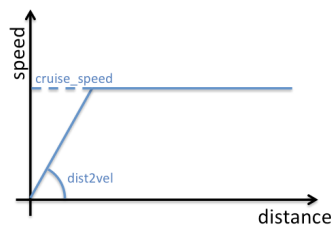

Figure 0.4: The relationship between the speed and the distance to the goal.
- c) A speed proportional to the distance to the goal and bounded by the cruise speed (similar to Fig.0.4) (Useful function $\text{maths_f_min}(a,b)$):